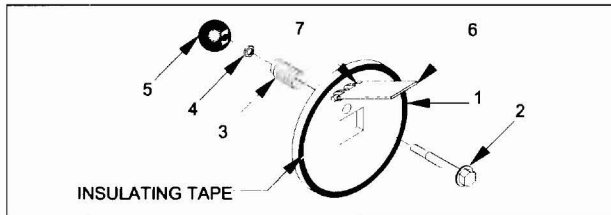

FIGURE 9
1. Locate steel "flapper door" (Item 6) as shown in FIGURE 9 below. Drive Item 7, "expansion pin", into hole in Item 1 to secure 6 in position.